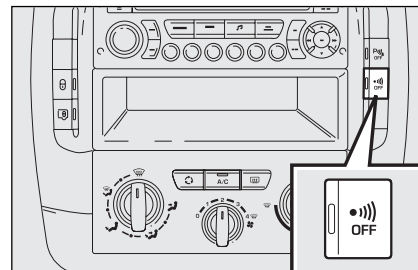

fig. 7a
- ☐ Within 10 seconds press the button **fig. 7a** keeping it pressed down until the deterrence led remains switched on.